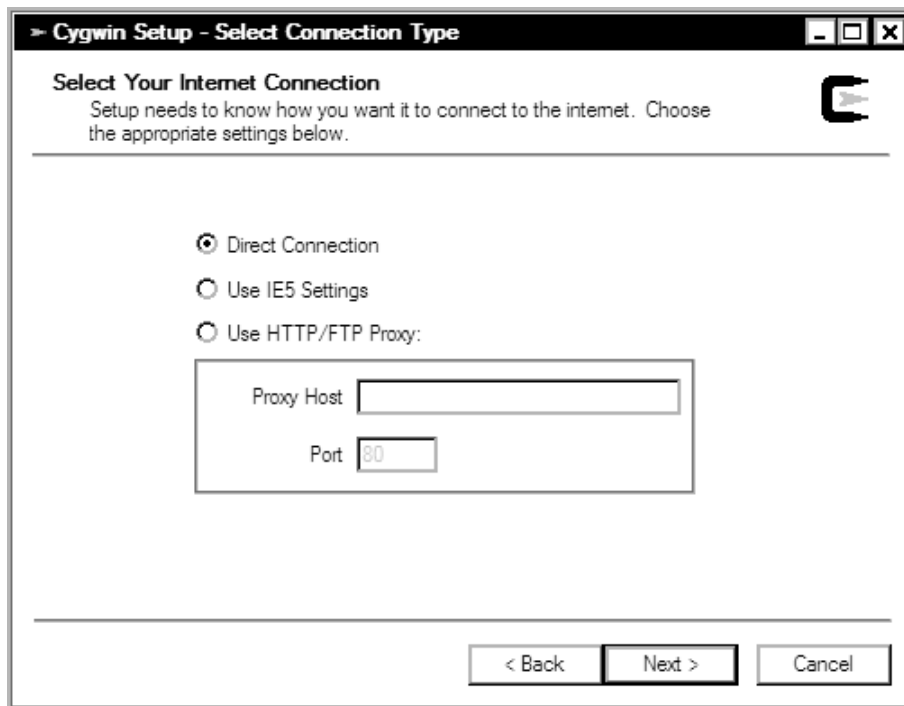

Figure 2-4. *Cygwin installation, selecting Internet connection type.*
7. Select a connection type (see Figure 2-4). Generally, you can choose Direct Connection. However, if you have an Internet connection that requires making a connection, the IE5 settings make that connection for you before starting the download process. If your environment uses a proxy to connect to the Internet, select the third item, and enter the hostname and port for the proxy.